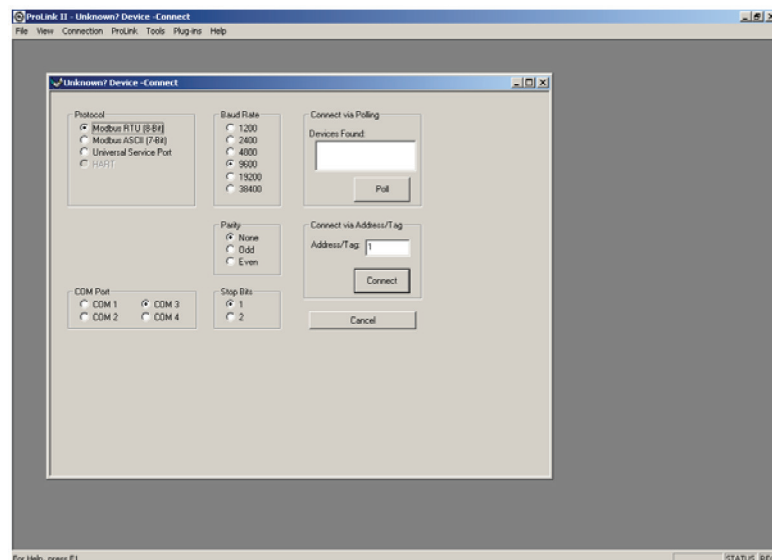

FIGURE 5.3
5. Launch Prolink, click on *Connection*, then *Connect to Device*. Verify the following settings (see Figure 5.3):